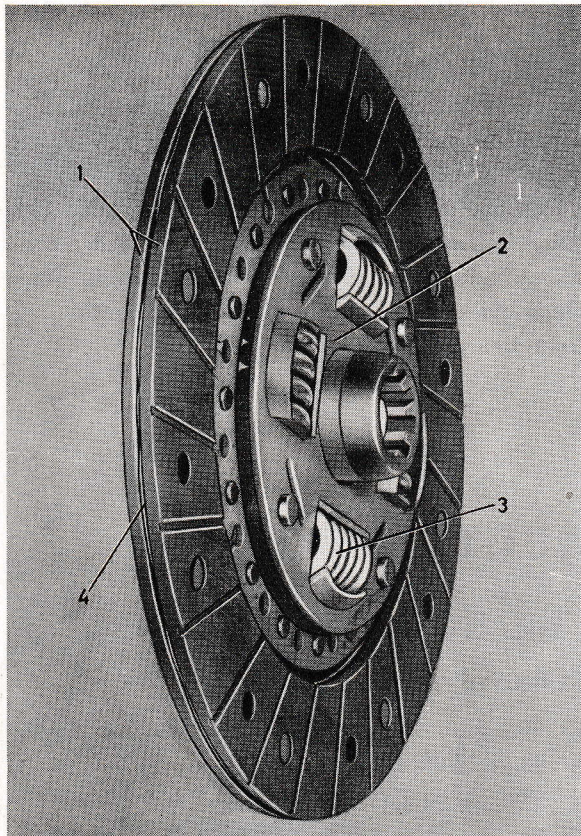

Fig. 3. Clutch plate
3. Rivet on the new facings (preferably in a rivet press). Note. The rivets should be inserted from the side on which the facing lies and riveted from the opposite direction against the disc. Use every other hole in the facing. After riveting, the facings should be spaced from each other as determined by the indentations in the disc. See Fig. 3. This is most important in order to achieve a smooth engagement when starting and driving. The clutch facings must be absolutely free from oil. Oil on the facings can cause the clutch to chatter or grab.